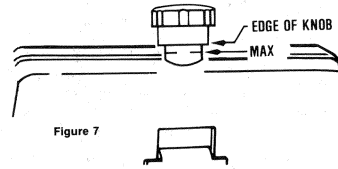

Figure 7
6. With the blade positioned, tighten the Blade Tensioning Knob on the top of the saw. Tighten it so that it rests between the "MIN" and the "MAX" rings, as shown in Figure 7. (Do not overtighten.)